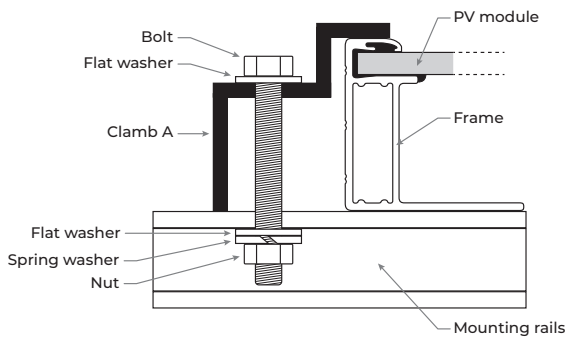

Figure 4
- Clamp material should be anodized aluminum alloy or stainless steel. The mounting details are shown in the following *Figure 4* and *Figure 5*.